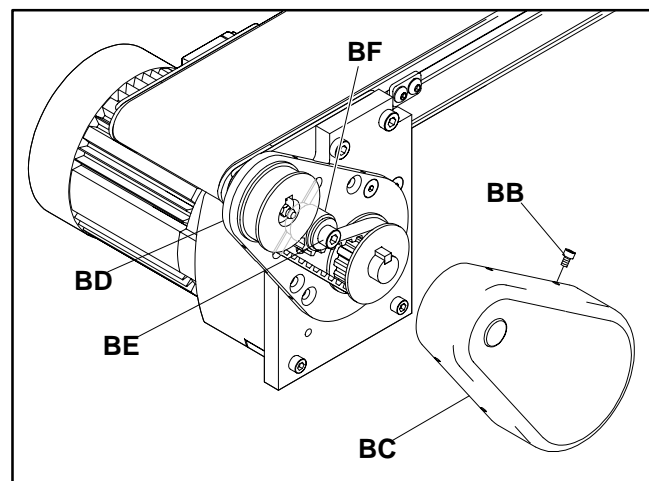

Figure 33
6. Disconnect power. Then, remove the screws (BB of Figure 33) securing the belt guard (BC). Then, remove the belt guard.
8. Loosen the cap screw (BE) which secures the tensioning bearing assembly (BF).
- Slide the tensioning bearing assembly (BF) against the timing belt (BG), until the deflection of the belt at the midpoint of the section of belt (BH) (opposite the tensioning bearing assembly) is 1/8" (3 mm) for a 1 lb (0.5 kg) force applied at that point. For optimum performance, the timing belt should be tensioned so as to prevent jumping of teeth under the most severe conditions which the drive will encounter.
- Tighten the tensioning bearing assembly cap screw (BE of Figure 33) with 18 ft-lb (24 Nm) of torque.
- Re-assemble the belt guard (BC) and belt guard screws (BB) to the back guard plate (BD).